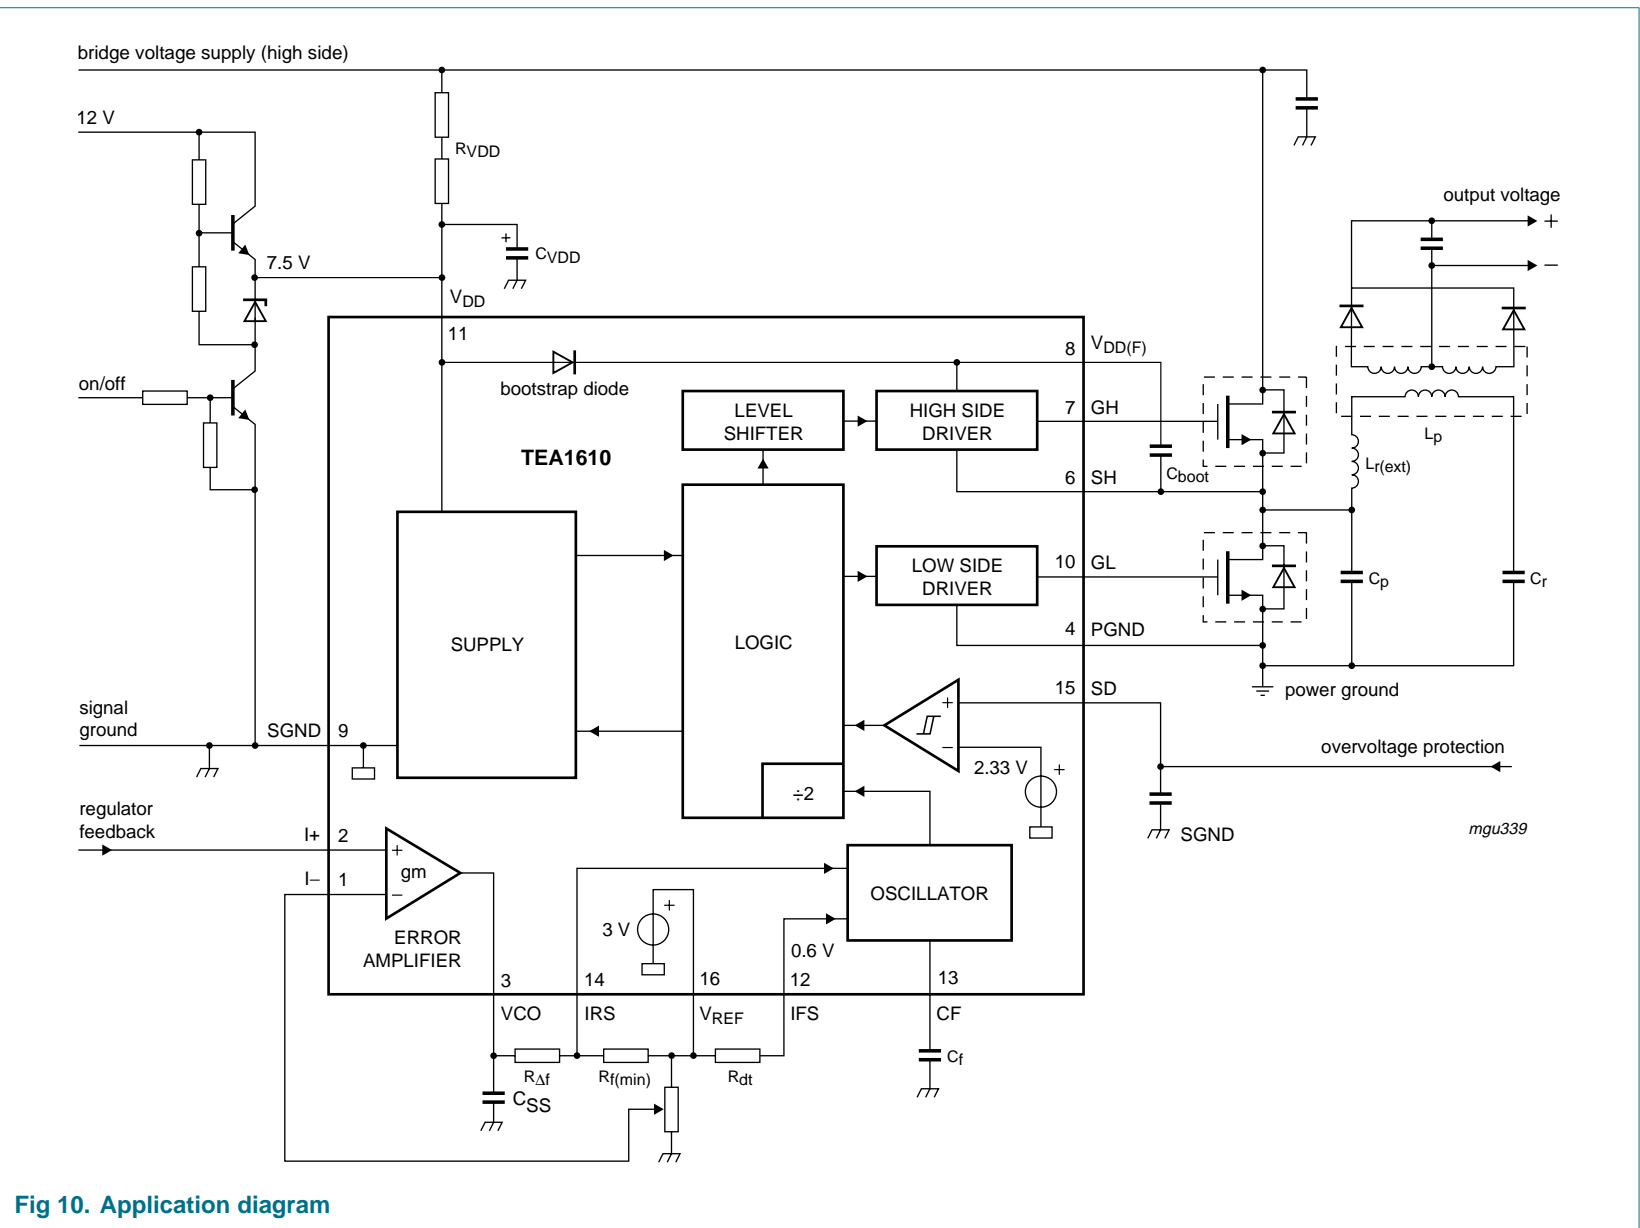

Fig 10. Application diagram
- [1] It is recommended that a 100 nF capacitor be placed as close as possible to the V_{DD} pin (as indicated in Figure 10, and in the application note).
All voltages are referred to the ground pins which must be connected externally; positive currents flow into the IC; $V_{DD} = 13\text{ V}$ and $T_{amb} = 25\text{ °C}$; tested using the circuit shown in Figure 10, unless otherwise specified.
All voltages are referred to the ground pins which must be connected externally; positive currents flow into the IC; $V_{DD} = 13\text{ V}$ and $T_{amb} = 25\text{ }^{\circ}\text{C}$; tested using the circuit shown in Figure 10, unless otherwise specified.
An application example of a zero-voltage switching resonant converter application using TEA1610 is shown in Figure 10. In the off-mode the V_{DD} voltage is pulled below the stop level of 9.4 V by the 7.5 V Zener diode and the half-bridge is not driven. In the on-mode the TEA1610 starts-up with a high-ohmic bleeder resistor. After passing the level for start of oscillation, the TEA1610 is in normal operating mode and consumes the normal supply current delivered by the 12 V supply. The dead time is set by R_{dt} and C_f . The minimum frequency is adjusted by $R_{f(min)}$ and the frequency range is set by $R_{\Delta f}$. The output voltage is adjusted with a potentiometer connected to the inverting input of the error amplifier and is regulated via a feedback circuit. The shut-down input is used for overvoltage protection. To prevent interference, filter capacitors can be added on pins IFS, IRS and V_{REF} . The maximum value of each filter capacitor is 100 pF.